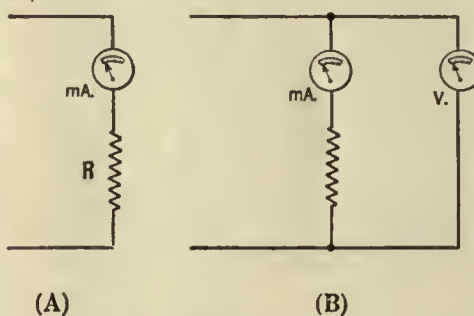

Fig. 1
The theory may seem a little complicated, but the method about to be described is simple and quick. There is a definite, though unknown, amount of resistance between the two points whose difference in potential is desired. Let this resistance be R , let the current through it be I , and the true voltage across it be E . Then by Ohm's Law $R = E/I$ expressed in ohms, volts, and amperes. Of these three unknown quantities, the current is determined most easily, by inserting a milliammeter in series with the load as shown in Fig. 1 (A) and noting its reading. Now connect the low-resistance voltmeter across both the milliammeter and the load, as shown in Fig. 1 (B). This will immediately cause a change in the reading of the milliammeter, as explained above. Let this new current reading be I' and let the reading of the voltmeter be E' .